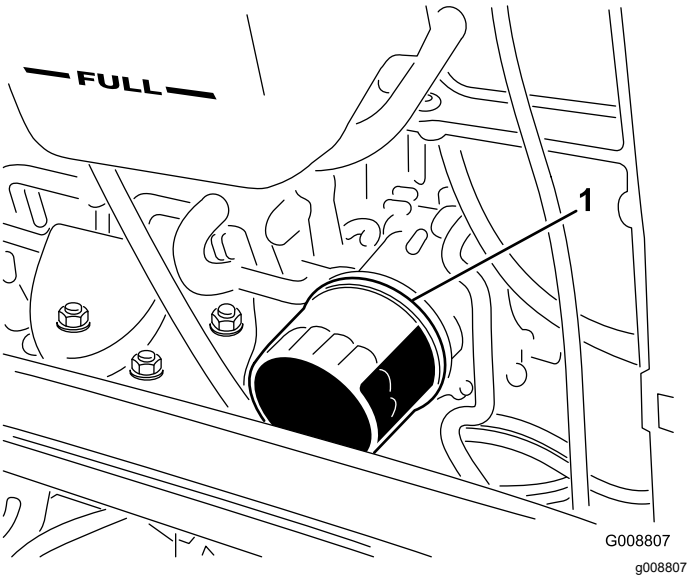

Figure 53
2. Remove the oil filter (Figure 53). Apply a light coat of clean oil to the new filter seal before screwing it on. Do not overtighten.